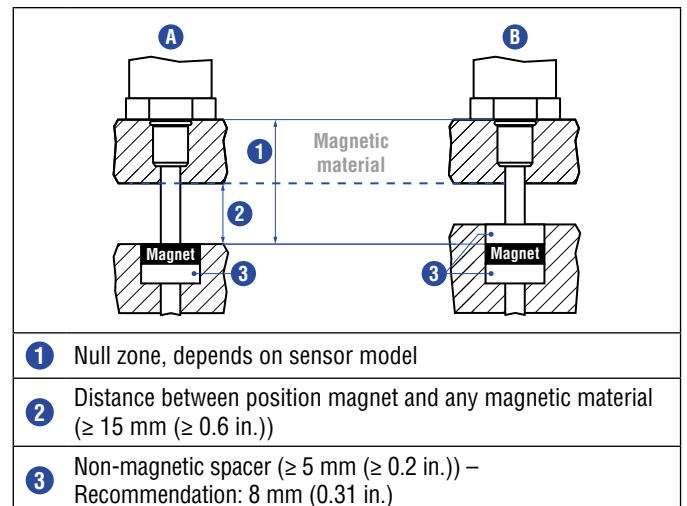

Fig. 15: Installation with magnetic material
- Minimum distance between position magnet and any magnetic material has to be 15 mm (0.6 in.) (Fig. 15).
- If no other option exists and magnetic material is used, observe the specified dimensions (Fig. 15).
When using magnetic material the dimensions of Fig. 15 must be observed.